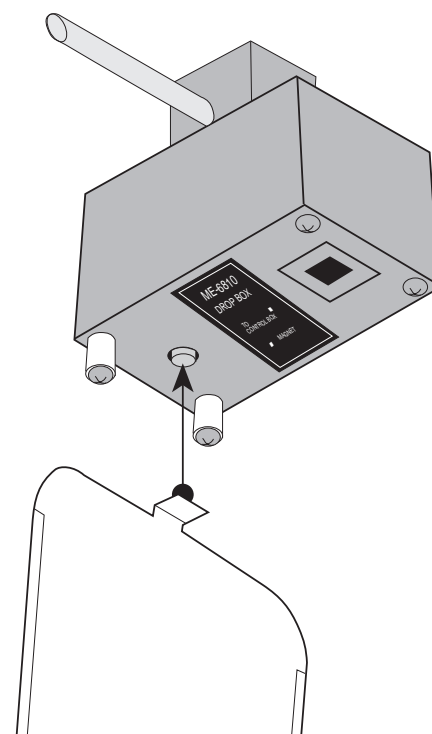

Figure 3: Attaching Target to Drop Box
- ① Clamp the Projectile Launcher to a sturdy table.
- ② Mount the photogate bracket on the Projectile Launcher and mount the photogate in the hole nearest the muzzle. Adjust the bracket so the ball will block the photogate beam as it leaves the end of the launcher.
- ③ Plug the photogate into the Control Box.
- ④ Plug the provided power supply into the Control Box.
- ⑤ Test fire the launcher to see approximately how far away to mount the Drop Box.
- ⑥ To mount the Drop Box to the ceiling, either hang the box by its clamp to a rod that is attached in some manner to your ceiling, or hang it from the clamp magnet to a magnetic ceiling surface. Attach the Drop Box so the magnet for holding the target faces down.
- ⑦ Connect the Drop Box to the Control Box by plugging the ends of the provided phone cord into each box.
- ⑧ Hang the target from the Drop Box. The metal on the target is held magnetically to the Drop Box. Orient the target so it faces the launcher and the upper edge is trapped behind the overhanging screws on the Drop Box (See Figure 3). This prevents the target from rotating.